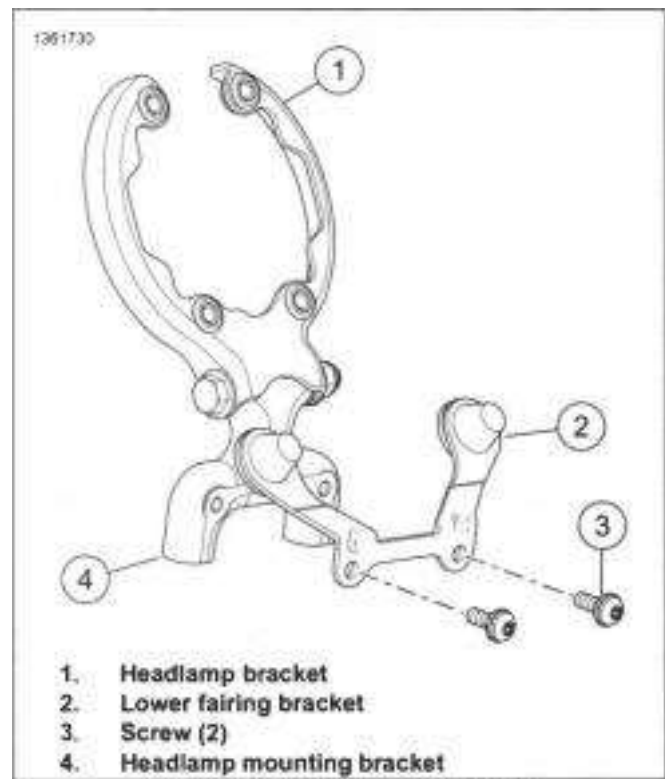
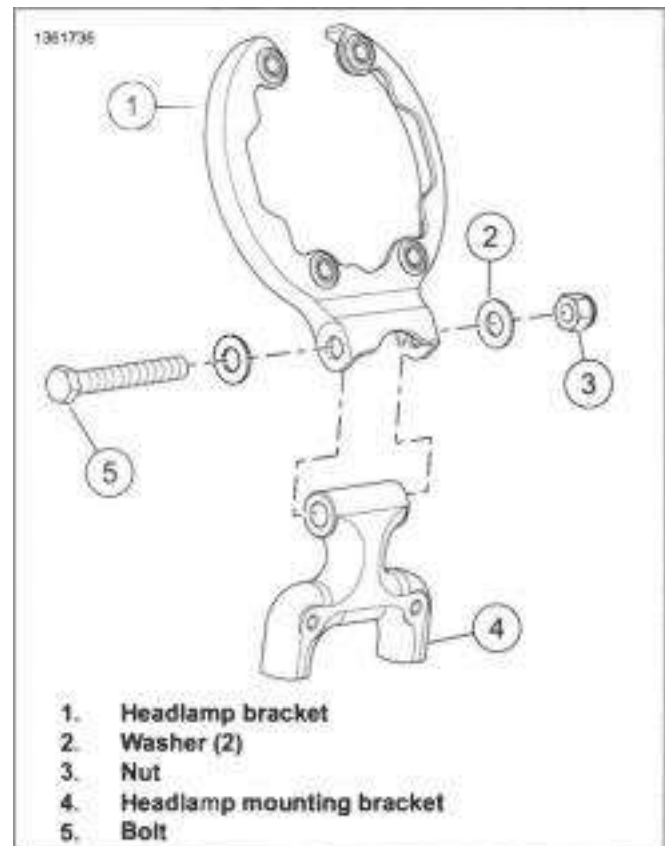
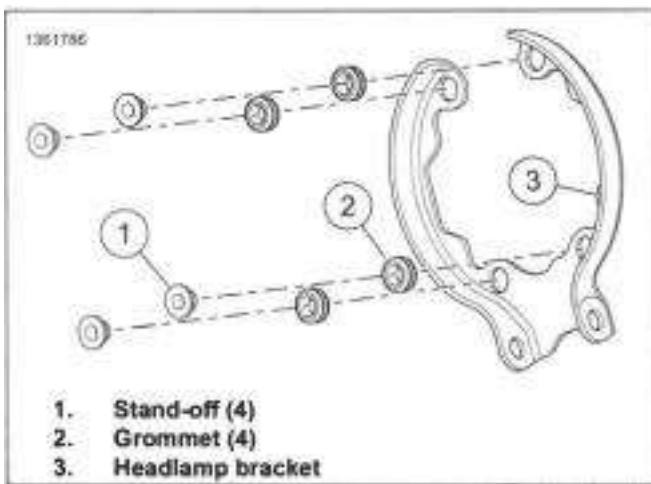

Figure 7-48. Lower Fairing Bracket
Figure 7-49. Headlamp Bracket Bolt, Washers, Nut
Figure 7-50. Headlamp Bracket Grommets, Stand-Offs
2. See Figure 7-48. Remove lower fairing bracket.
- a. Remove screws (3).
3. See Figure 7-49. Remove headlamp bracket (1).
- a. Remove bolt (5), washers (2) and nut (3).
4. See Figure 7-50. Remove stand-offs (1) and grommets (2) .
1. See Figure 7-50. Install grommets (2) and stand-offs (1 ).
2. See Figure 7-49. Install headlamp bracket (1).
- a. Position headlamp bracket on headlamp mounting bracket (4).
- b. Install Bolt (5), washers (2), and nut (3). tighten.
3. See Figure 7-48. Install lower fairing bracket (2).
- b. Install screws (3). tighten.